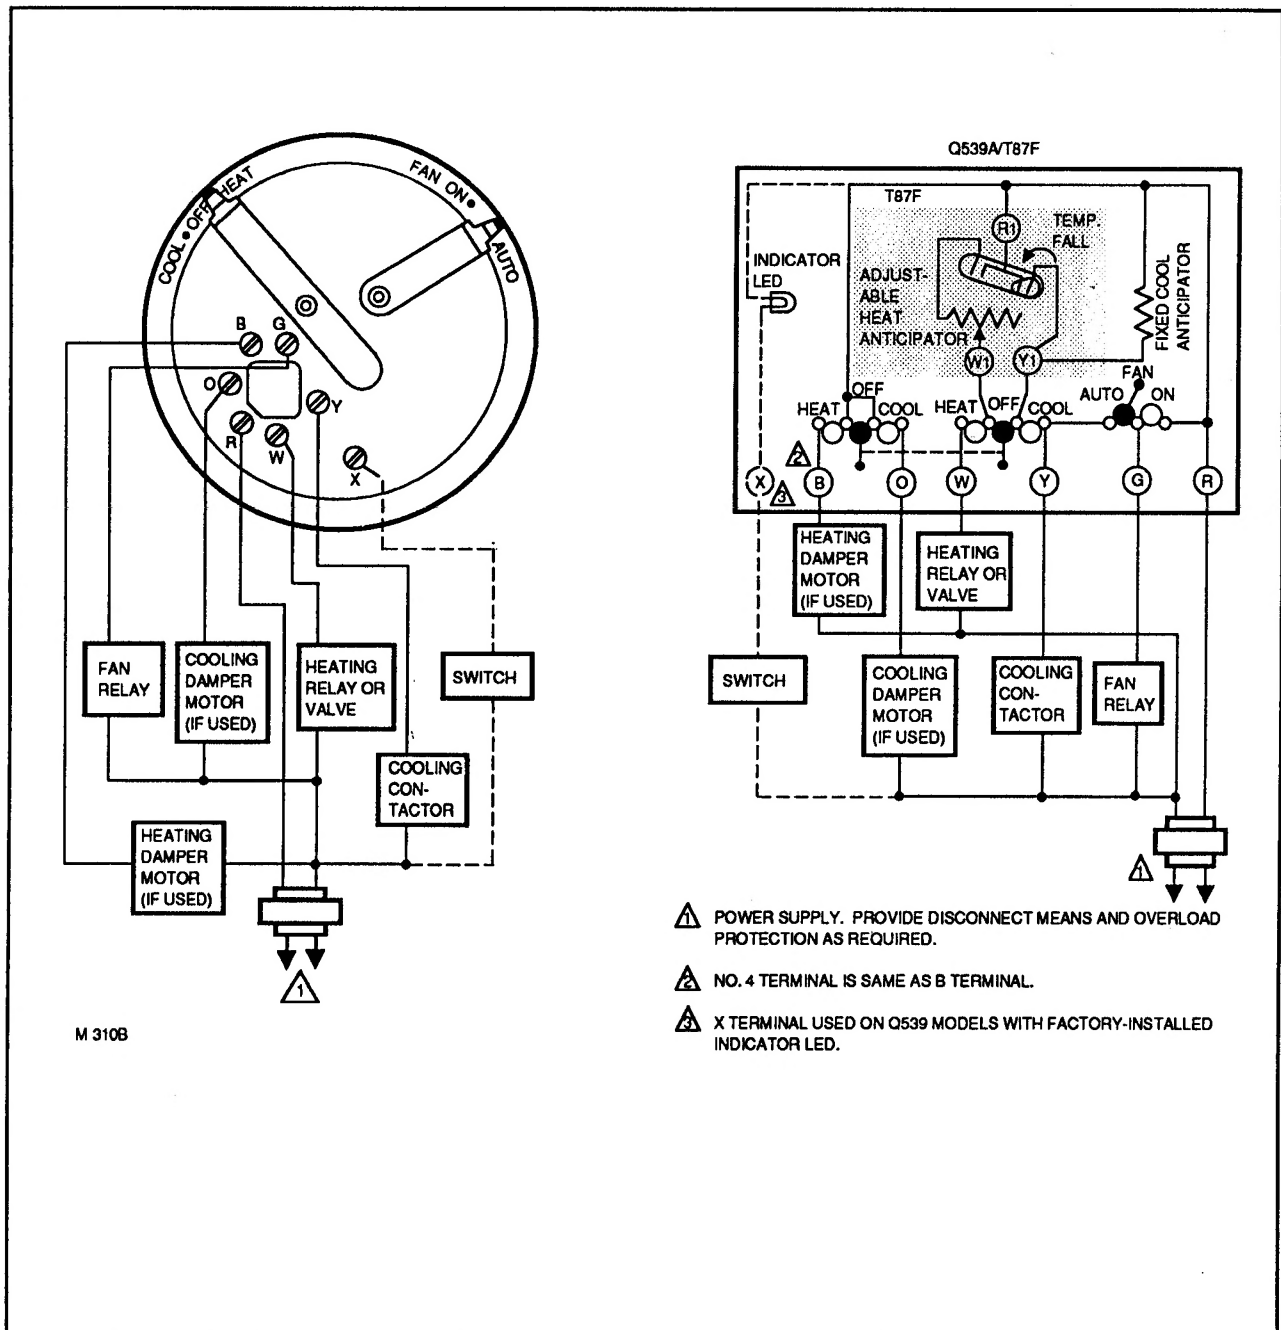

FIG. 1—Q539A,B,C IN HEATING-COOLING APPLICATION USING COMMON POWER SUPPLY.
3. Connect the wires to the terminals inside the subbase. Refer to equipment manufacturer's instructions for Q539 wiring diagrams. If not available, refer to Figs. 1 through 12.